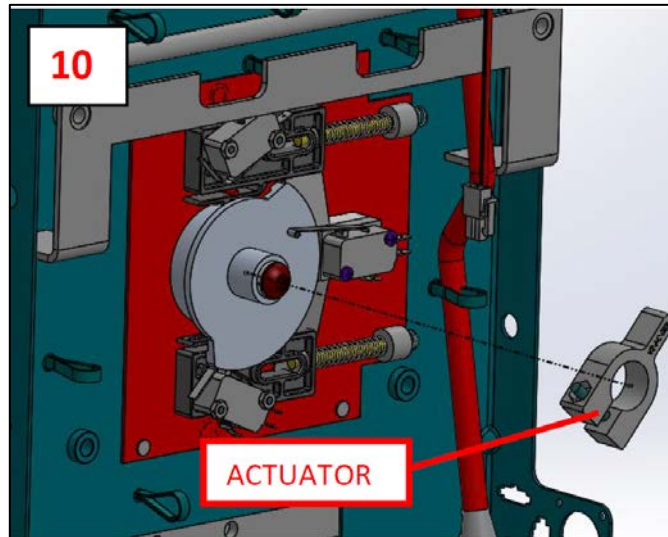

Figure 10: Install Actuator
13. Reinstall the actuator using the screw removed earlier. See **Figure 10**.